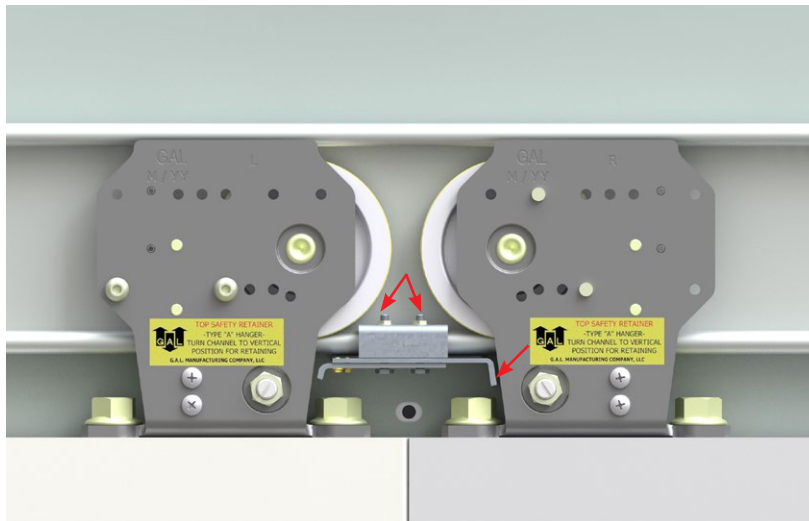

Figure 16: Set Right Side of Stop
5. Close the car doors and line them up with the centerline of the door opening. Push the center-stop against the right sheave and tighten the top nuts, shown in **Figure 16**, to lock the center-stop in place.